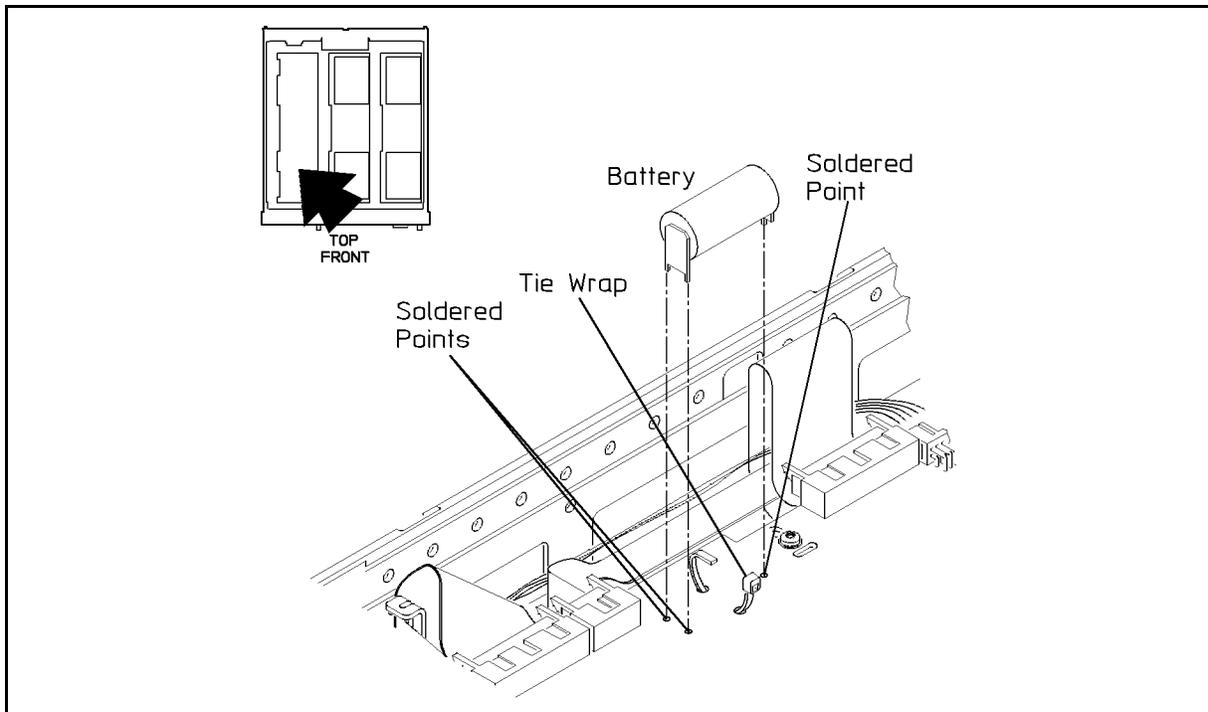

Figure 5-16. Microprocessor Board Battery Removal
3. Cut the tie-wrap connecting the battery, BT1, to the microprocessor assembly, A3. See Figure 5-16.